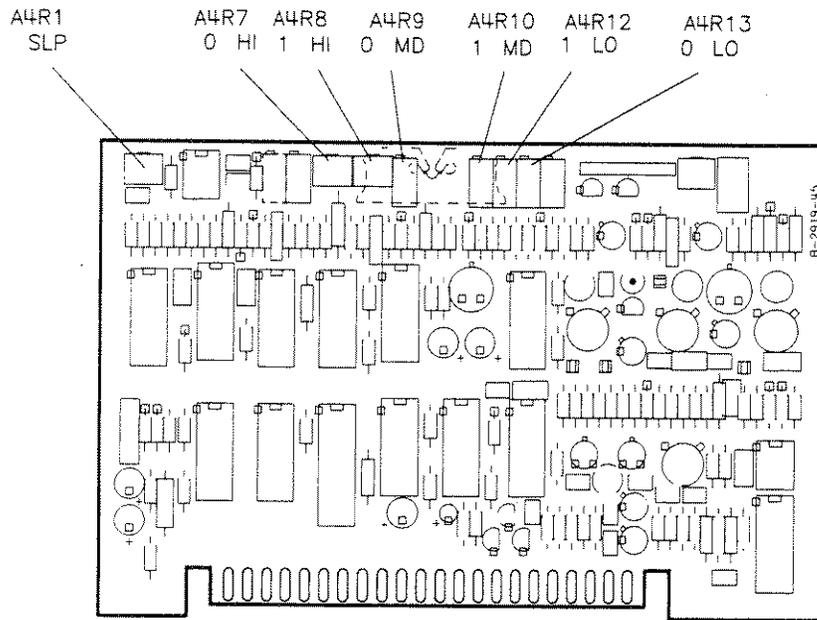

Figure 5-33. Internal Leveled Flatness Adjustment Locations
28. Set the following adjustments as indicated. See figure 5-33 for adjustment locations.